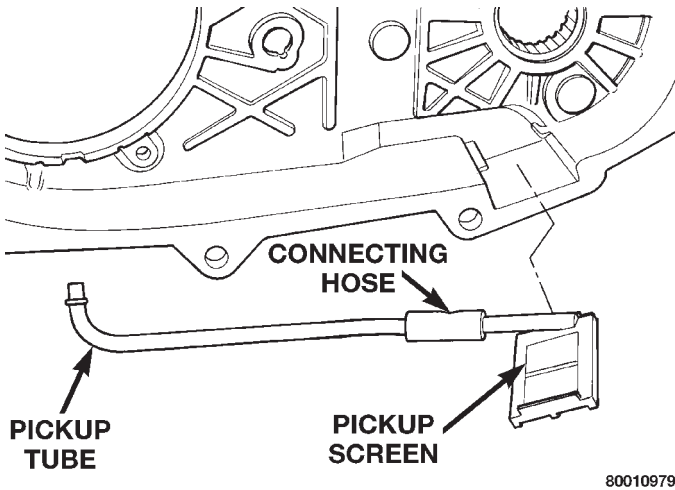

Fig. 15 Oil Pickup Screen, Hose And Tube Removal
(13) Remove oil pickup tube and screen from rear case (Fig. 15).